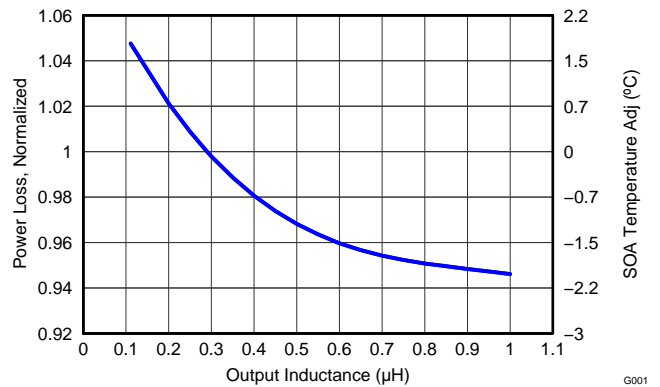

Figure 15. Normalized Power Loss vs Output Inductance
- Normalized Power Loss for output inductor \approx 1.02 (Figure 15)
- SOA adjustment for output inductor \approx 1.7 $^{\circ}$ C (Figure 15)